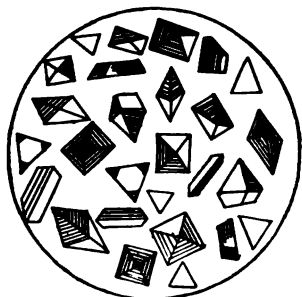

Fig. 48.
3. Look for any change in the color of the copper, any sublimate (state its color and why it should differ from the sublimed As in Exps. 73, 75). The forms of crystals, as seen under a microscope, determine whether the substance is arsenic. The crystals are  $\text{As}_4\text{O}_6$  and are octahedrons, tetrahedrons, etc., Fig. 48.